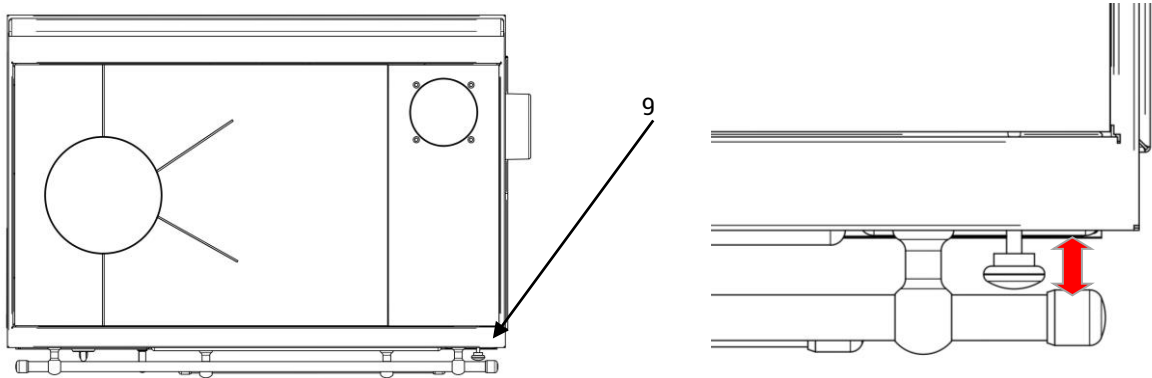

Figure 12
The launch of heating and ignition damper is carried out by means of draught leverage button (Figure 12, position 9) located above the oven door. The damper's role is to cut off the pathway of flue gases during ignition, as described on Figure 12.
- After stoking of the cooker (first ember), retract the ignition damper button (Figure 12, position 9)